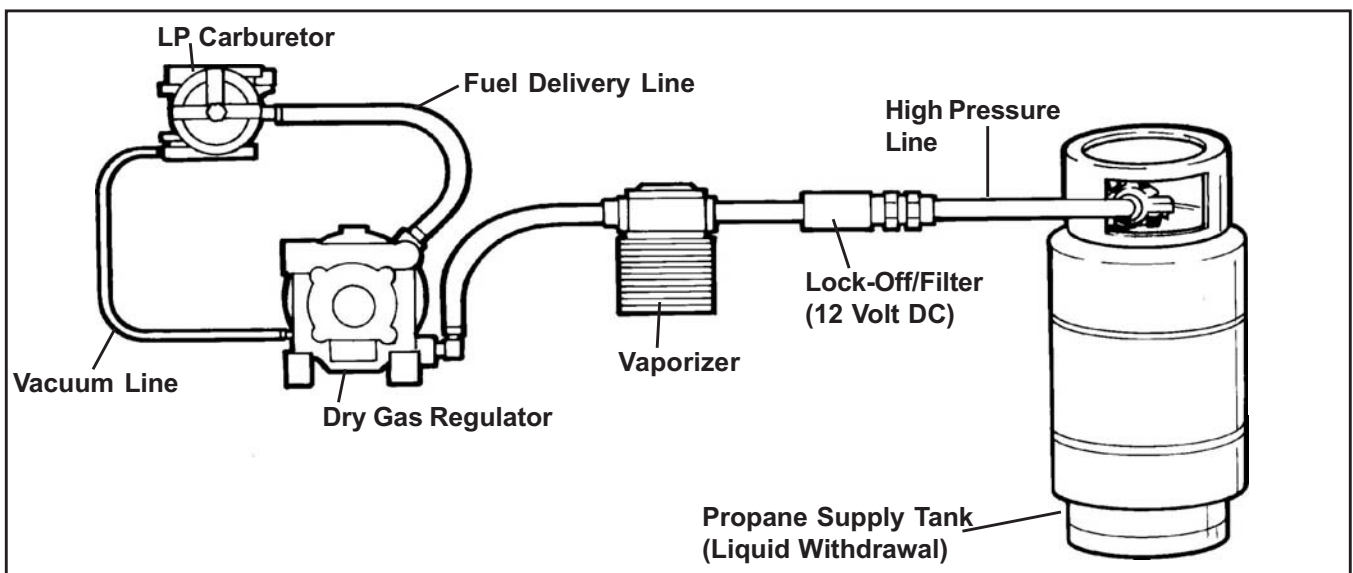

Figure 13. Schematic Showing Components of LP System.
This opens, closes, and filters the liquid fuel flow from the supply tank before reaching the vaporizer. Servicing, if required, is to be performed by an authorized Kohler Engine Service Dealer or qualified LP personnel only. See Figure 13.
The vaporizer changes the Liquified Petroleum (LP) from the supply tank to a gaseous/vapor state. Other than keeping the body clean, no maintenance, adjustment, or servicing is required. See Figure 13.